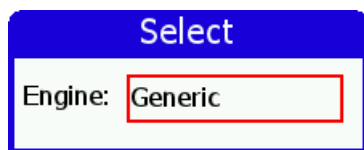

Figure 13: Engine type selection window
**Engine Type** Depending on specifications of your aircraft, select the correct engine. Figure 13 shows the engine selection window. Setting the engine type allows Emsis to calculate fuel consumption and has no other effect on the instrument.